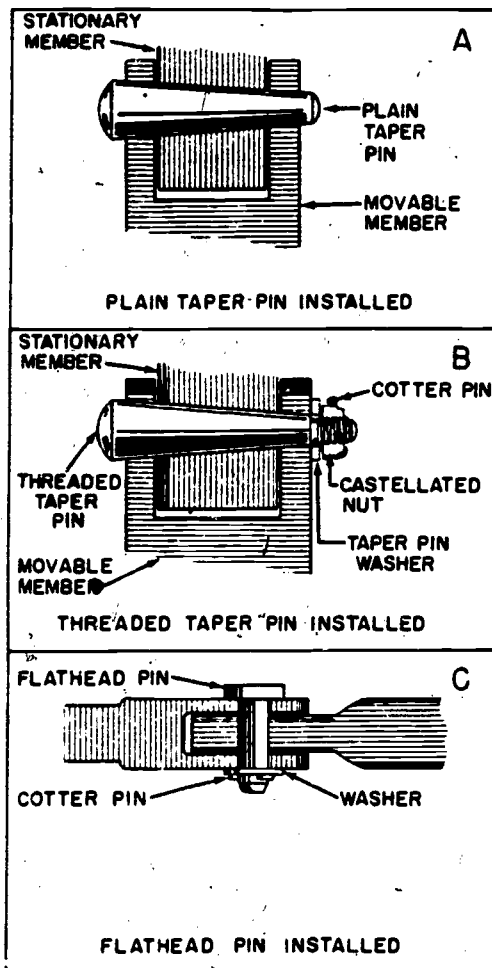

Figure 2-3. - Types of aircraft pins.
Taper pins are used in joints that carry shear loads and in areas where some clearance is required. (See figure 2-3 (A) and (B).) The threaded taper pin is used with a taper-pin washer and a shear nut if the taper pin is drilled, or with a self-locking nut if undrilled. When a shear nut is used with the threaded taper pin, and washer, the nut is secured with a cotter pin.
continuously. This pin is used where little clearance is provided. The flathead pin should be secured with a cotter pin. The pin is normally installed with the head up (figure 2-3 (C)). This precaution is taken to maintain the flathead pin in the installed position in case of cotter pin failure.